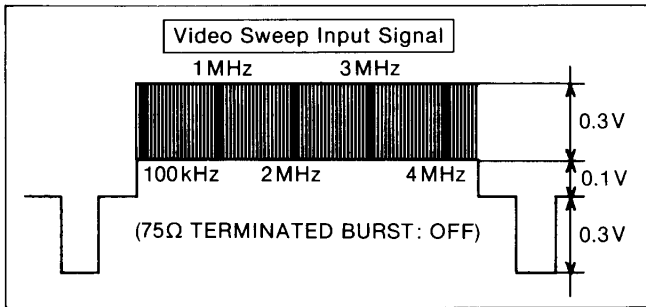

Figure E30
2. Set the sweep generator output as shown in Figure E30.